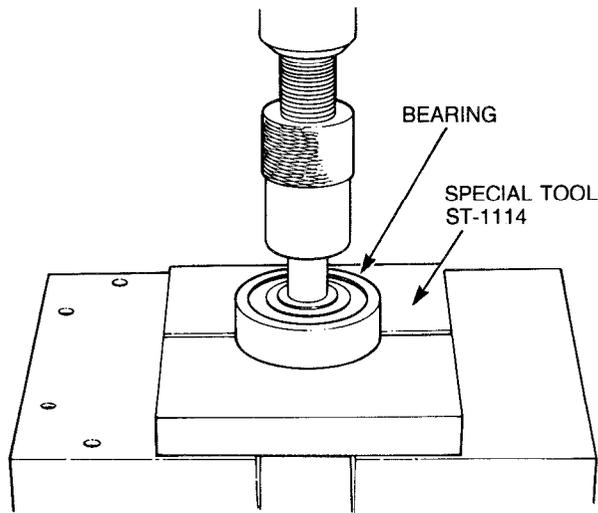

Figure 60 — Water Pump Bearing — Removal
- f. Support the inner bearing, spacer and outer bearing on the water pump shaft with special tool ST-1114 (see Fig. 60) then using a suitable press, remove the shaft from the bearings and spacer.